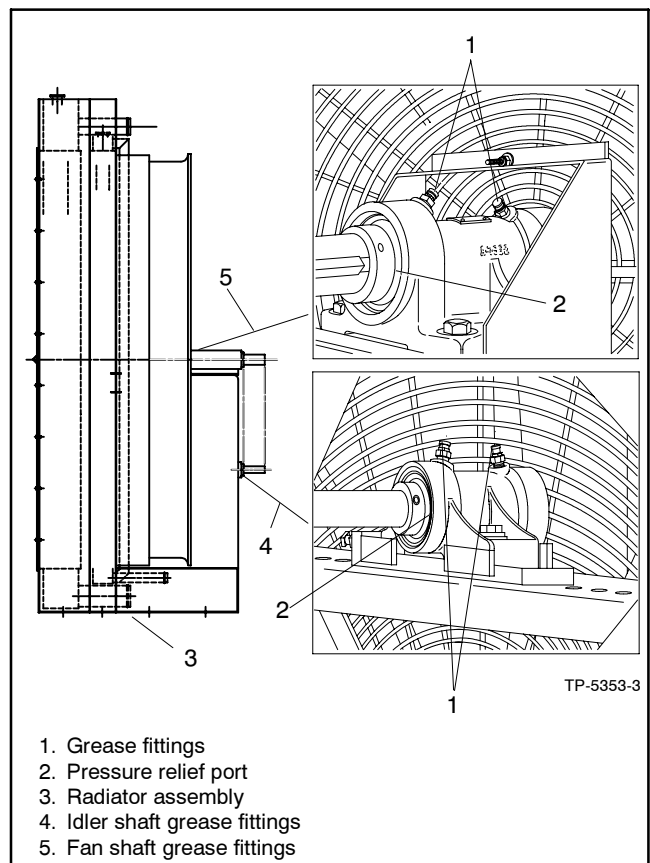

Figure 3-7 Radiator Fan Bearings and Pressure Relief Ports, Typical
4. Inject grease into the two bearings on the fan shaft block and the two bearings on the idler shaft block using a grease gun until a 3–6 mm (0.13–0.25 in.) grease column shows at the bearing pressure relief port. See Figure 3-7.